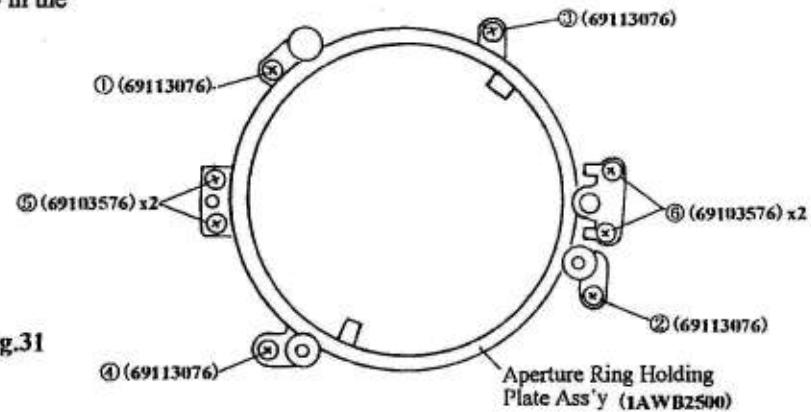

Fig.31
- b) Tighten the Aperture Ring Holding Plate Ass'y Setscrews (69113076) x 4, (69103576) x 4 in the order as shown in Fig. 31.